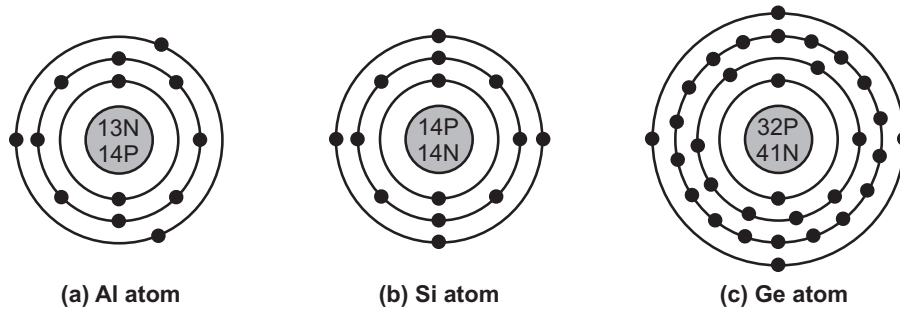

Fig. 1.2 : Atomic structure of elements
- Fig. 1.2 shows the representations of the atomic structure of different elements e.g. Aluminium, Silicon and Germanium atoms.